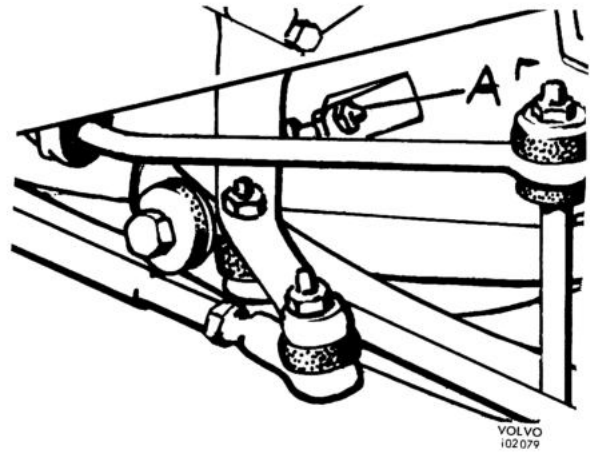

Fig. 6-11. Adjusting screw, max. wheel lock
Wheel turning is limited by stop bolts, at the pitman arm (Fig. 6-11) and at the relay arm.
1. Turn the left wheel for a left-hand turn as far as it goes. Check that the lock angle of the wheels is 45° . If it is not, then adjust to this value with the stop bolt (A, Fig. 6-11) at the pitman arm.